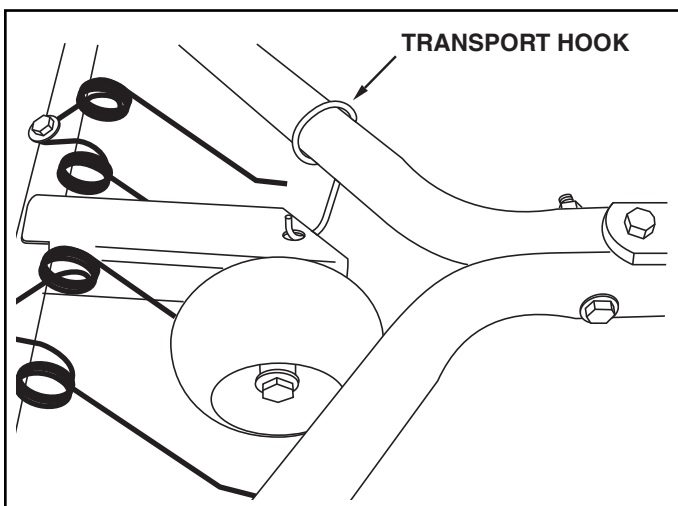

FIGURE 6
10. Lift the front of the dethatcher and secure it in transport position using the transport hook. See figure 6.